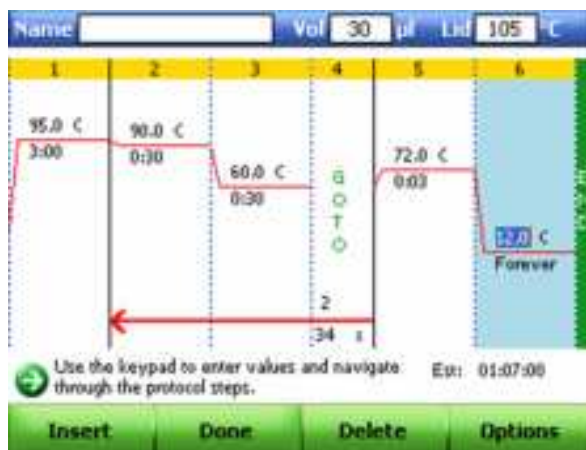

Figure 36. Step 6 selected for deleting.
Step 6 is selected in the example shown on Figure 36.